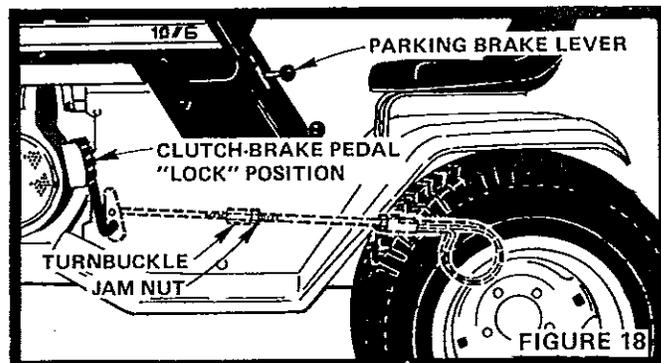

FIGURE 18
- Loosen Jam Nut (Fig. 18) to rear of Turnbuckle.